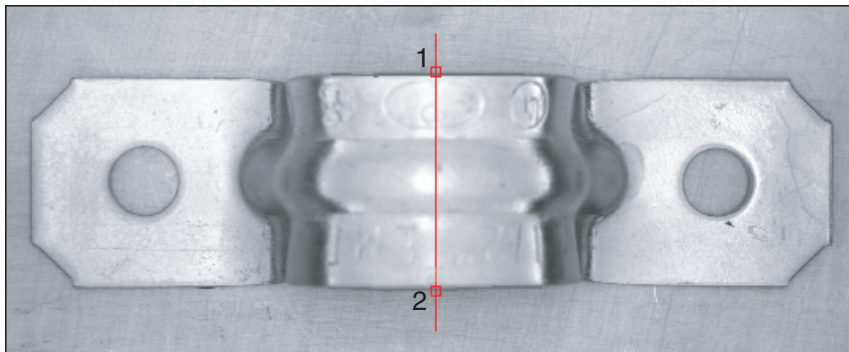

Figure 4-5. Finding the Edges for Bracket Distance
5. Click and drag to draw a vertical line across the middle of the bracket to find the edges that you can use to calculate Width Center, as shown in Figure 4-5. Vision Assistant labels the edges 1 and 2.